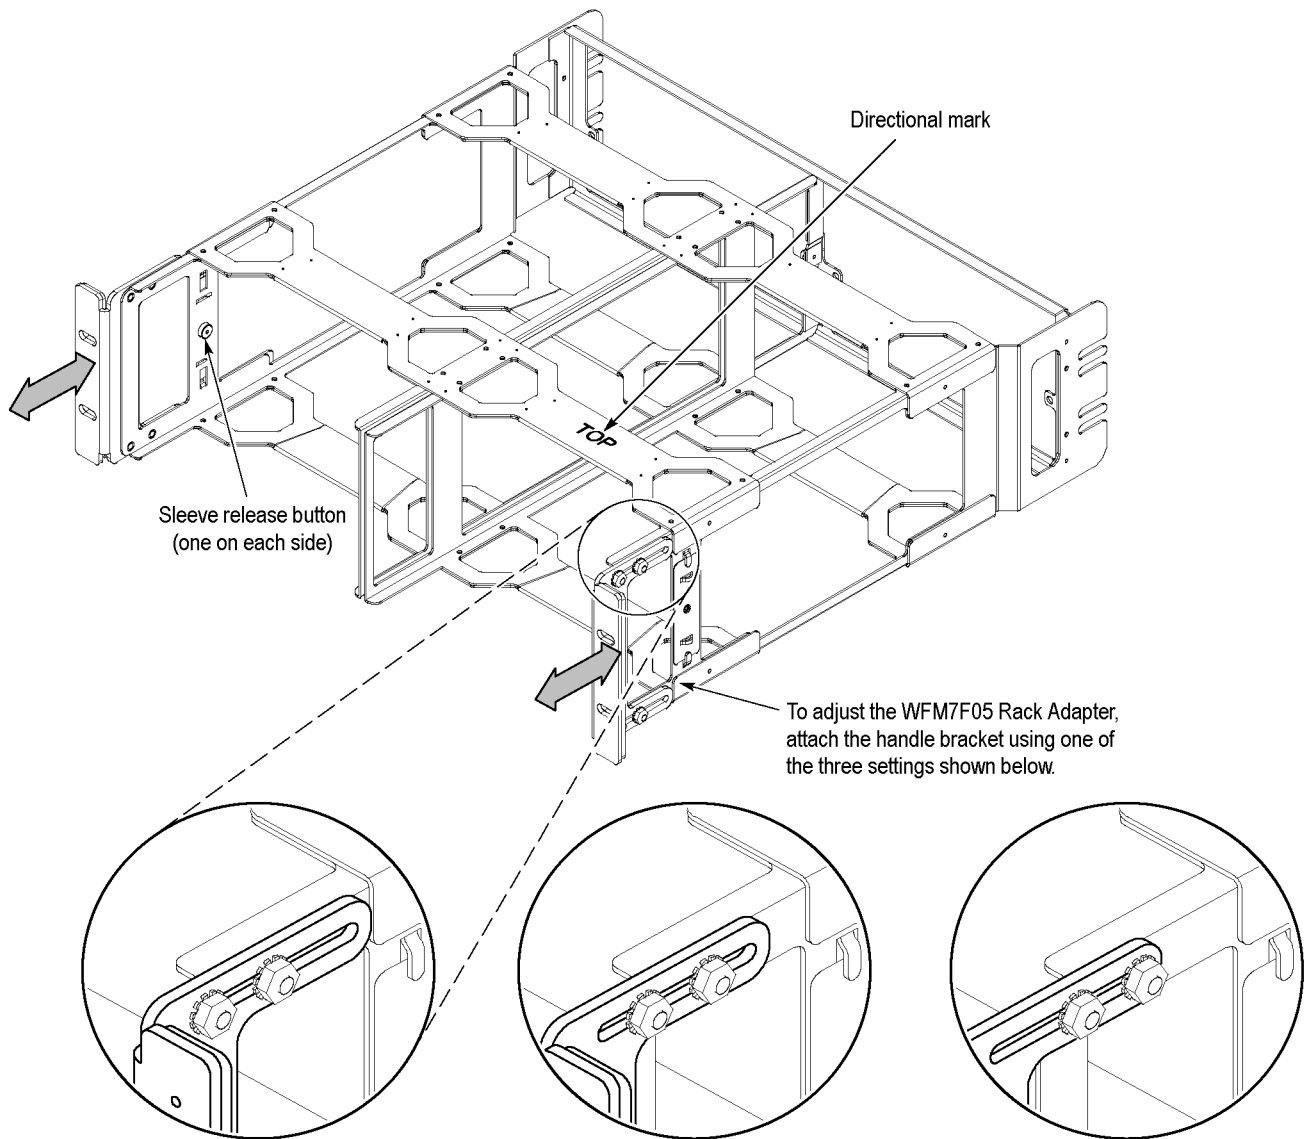

Figure 8: Adjusting the position of the handles
*The rack adapter is marked with the word "TOP" to indicate which side of the adapter should face up. (See Figure 8.)*
1. If the two sleeves are installed in the rack adapter, remove them as follows: locate the button on the inside front of the rack adapter and hold it in while pulling the sleeve forward and out of the adapter. (See Figure 8.)
2. If desired, you can adjust the position of the handle brackets to mount the adapter flush with other equipment in the rack. To do this, loosen the nuts that attach the handle brackets to the rack adapter, adjust the position of the handle brackets as desired, and then tighten the nuts securely. (See Figure 8.)